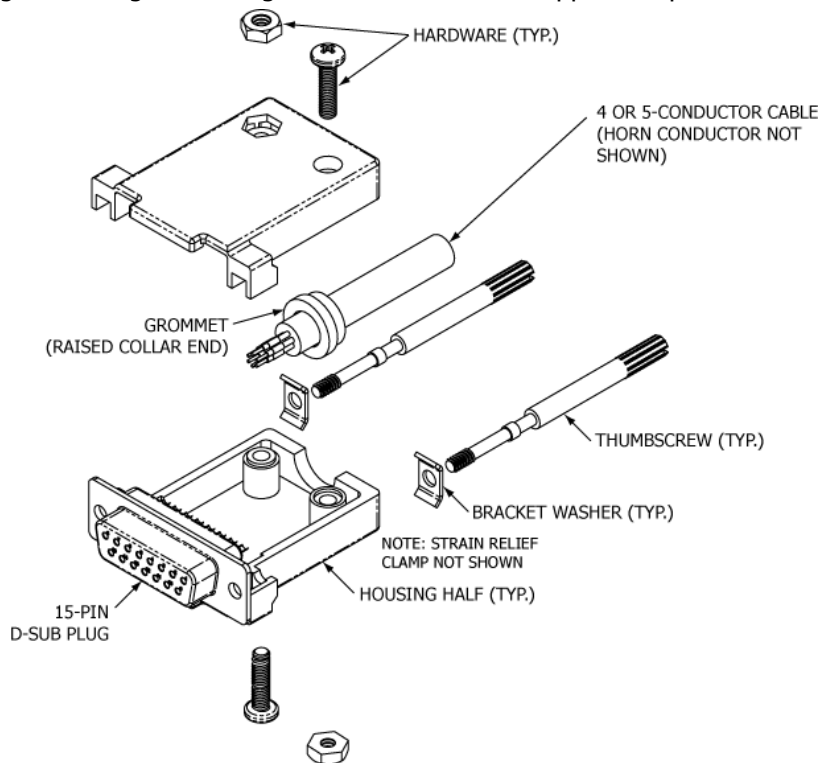

Figure 21 Harness Plug Assembly
- 1) See Figure 21 Harness Plug Assembly.